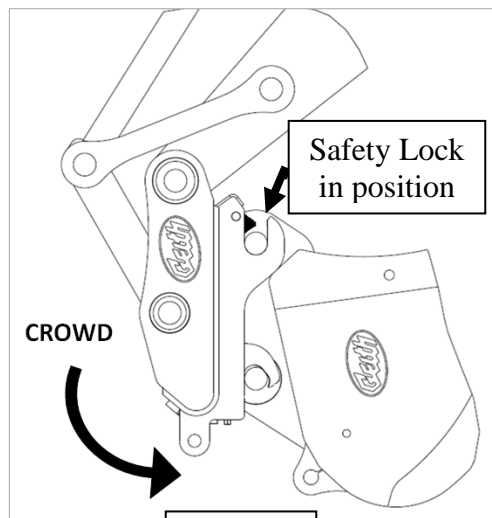

Fig. 12
1. With Quick Coupler and attachment at ground level, position attachment in a curled position with hooks pointing upwards as per fig. 12, with the pressure built up in the machine bucket digging/crowd cylinder.